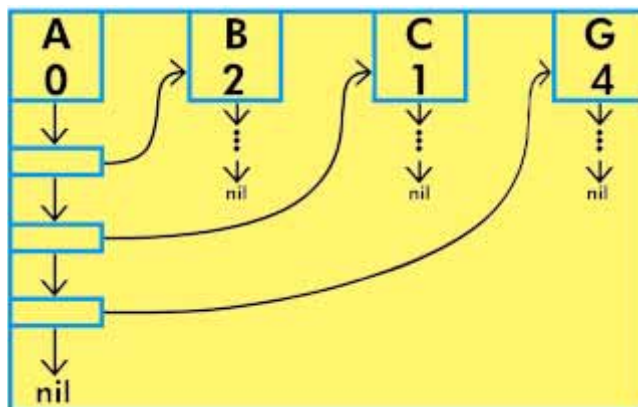

Figure 1: This data structure represents the tasks for which A is a prerequisite.
- 6) Run RptTestDev. If you have not tested the report before, you will need to enter values into the report and parameter fields. Use the field information in **Figure 1** to determine what values to place in each field.
For each task, create a record that includes the task's name, the number of tasks it has as prerequisites, and a linked list of pointers to the tasks for which it's a prerequisite. For example, suppose task A has no prerequisites. Suppose also that task A is a prerequisite for three other tasks: $A < B$, $A < C$, and $A < G$. Then, the data structure representing task A would look like the diagram shown in Figure 1.
For example, suppose that the program reaches the point shown in Figures 1 and 2. In step 1, it removes task A from the top of the Ready list and outputs it.
The program then searches task A's list of dependents. Figure 1 shows that these include tasks B, C, and G. The program decrements the prerequisite count for each of these tasks, and they become 1, 0, and 3, respectively. At this point, the count for task C becomes 0, so the program removes that task from the NotReady list and adds it to the Ready list. Removing the task is easy because the NotReady list is a doubly-linked list, and it's always easy to remove items from a doubly-linked list. (For more information on linked lists, see Rod Stephens' article "Linked Lists" in the May 1998 *Delphi Informant*.)